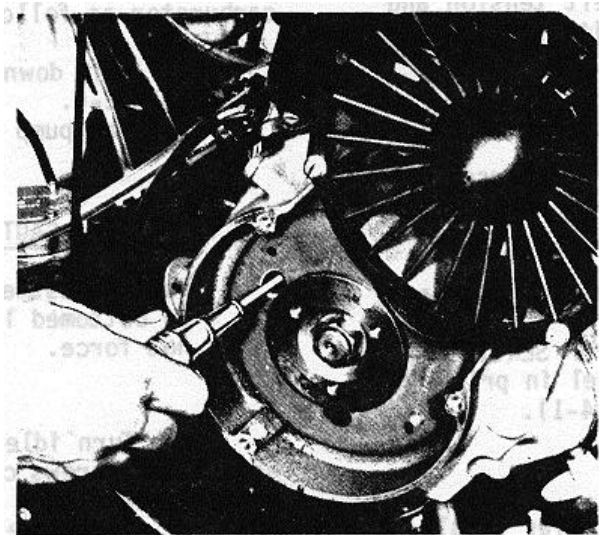

Figure 4-3. Ignition Timing Adjustment
g. Loosen the stator assembly mounting screws through the holes in the flywheel. To correct timing, rotate the stator assembly as required (clockwise to retard the timing; counterclockwise to advance the timing) (see figure 4-3).